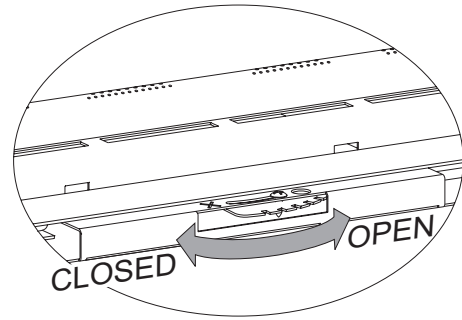

**Figure 7**
- 7a. Use a 7/16 inch deep socket set to install orifice marked #47 onto rear orifice holder. Use needle-nose pliers to screw rear target onto rear orifice holder (30 only). **See Figure 7.**
- 7b. Use a 7/16 inch deep socket set to install orifice marked 2.40 mm onto rear orifice holder. Use needle-nose pliers to screw rear target onto rear orifice holder (35 only). **See Figure 7.**
- 8a. Use a 7/16 inch deep socket set to install orifice marked #52 onto front orifice holder. Use needle-nose pliers to screw front target onto orifice holder (30 only). **See Figure 7.**
- 8b. Use a 7/16 inch deep socket set to install orifice marked #50 onto front orifice holder. Use needle-nose pliers to screw front target onto orifice holder (35 only). **See Figure 7.**